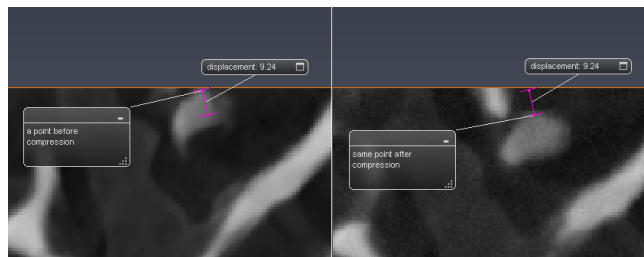

Figure 23.7: Displacement Measurement between the two ortho slices
- The maximum displacement should be around 10 (see Figure 23.7).